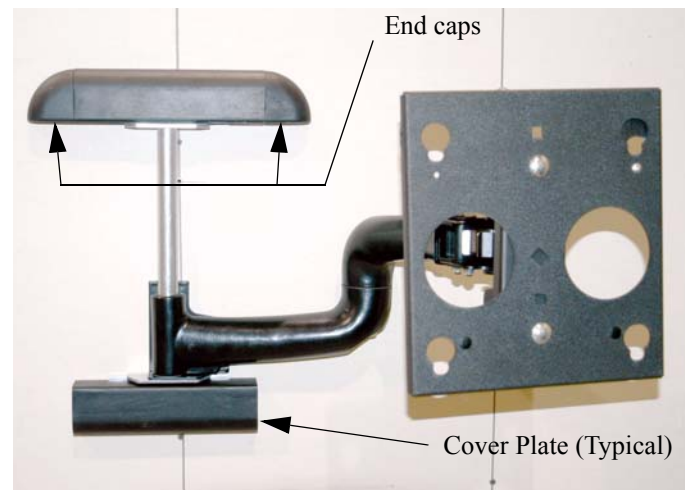

Figure 4. Install Cover Plates
1. Install cover plates (20) over the top and bottom mounting brackets. See Figure 4.
2. Install end caps (30) on the ends of both cover plates (20).